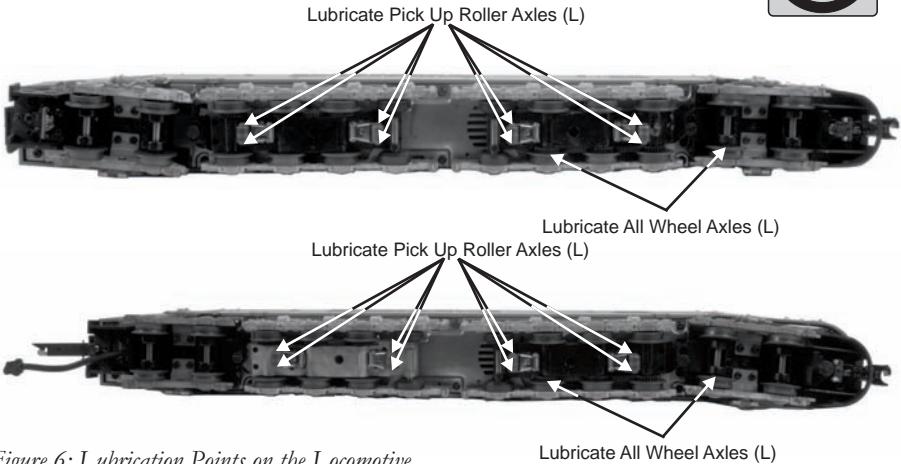

Figure 6: Lubrication Points on the Locomotive
2. Once the cab is removed, remove the trucks by unscrewing the black Phillips motor mount screw located on the underside of the drive trucks (see Fig. 6).